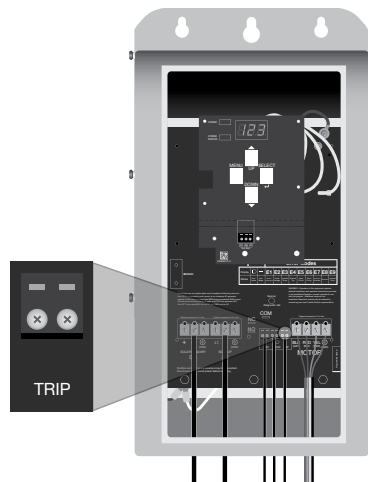

Figure 7: Flow Switch Wiring Connection
1. Connect the cables from the Flow Switch terminals NO and COM, and to the SubDrive Solar terminal block labeled "TRIP" (Figure 7).